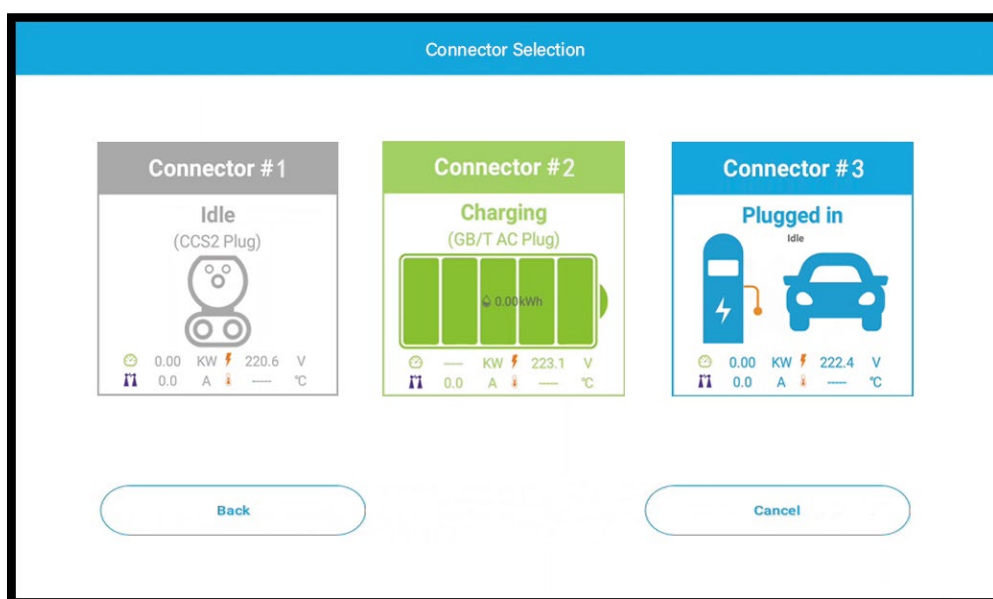

Figure 4.1 TCHARGE® UDC Charger Home Screen Connector List Example
- 1) After **connecting a connector on your charger to a vehicle**, select (click on) the **corresponding connector icon** on the home screen. (See **Figure 4.1** for examples of connector icons can be selected)